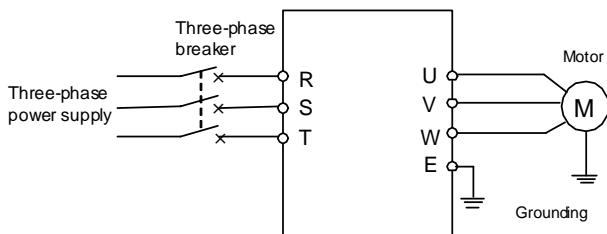

Figure 5-3 Wiring for the operation of SVC mode
- ◆ Connect as per Figure 5-3;